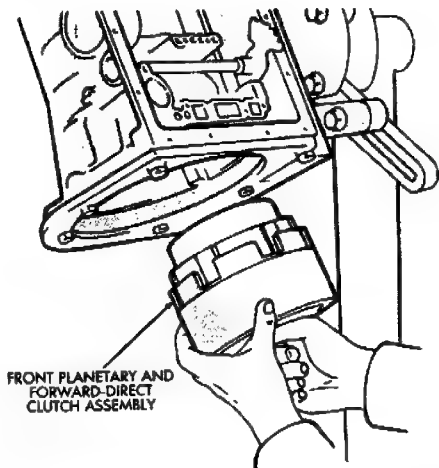

Fig. 29 Installing Front Planetary And Forward-Direct Clutch Assembly
(36) Rotate front of transmission case downward and install assembled planetary gear/forward-direct clutch (Fig. 29).